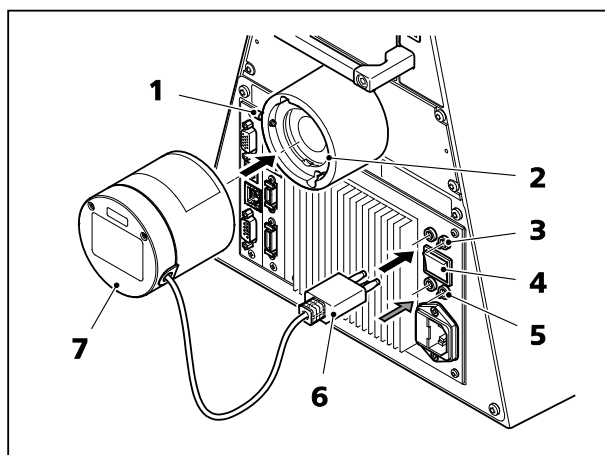

Fig. 49 Mounting the microLED illuminator
- Loosen clamping screw (Fig. 49/1) on reflected light socket (Fig. 49/2) and remove the halogen lamp.
- Insert the attachment lamp (Fig. 49/7) with the dovetail ring into the socket (Fig. 49/2) and, using the 3 mm ball-headed screwdriver, fix it using the clamping screw (Fig. 49/1).
- Connect the 3-pin illuminator plug (Fig. 49/6) to the upper or lower 3-pin socket 12 V / 100 W for transmitted light (Fig. 49/3) or (Fig. 49/5) for reflected light on the rear side of the instrument.
- For the coded stands 3 and 5, set the transmitted light/reflected light toggle switch (Fig. 49/4) to the corresponding position for transmitted light (DL) or reflected light (AL). If you use the motorized stand, switching between reflected light and transmitted light is done via touch screen on the TFT display.